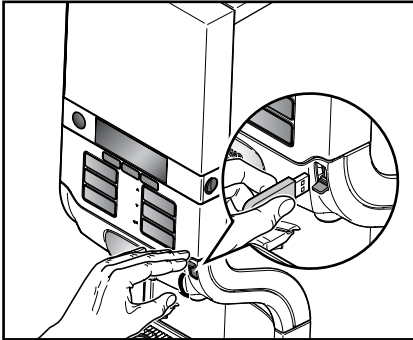

Fig. 29
- Insert the supplied USB key into the USB port on the dispenser (fig. 29).